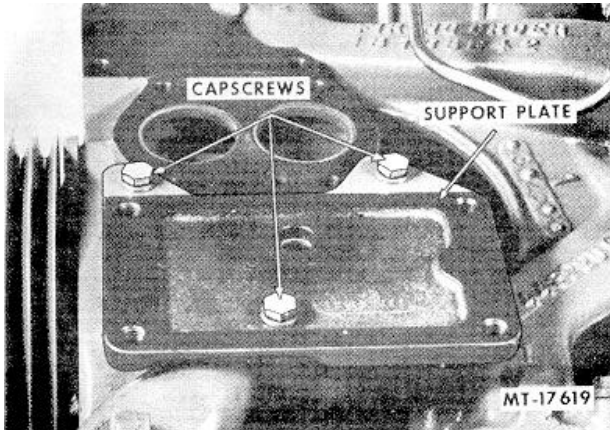

Fig. 19 Air Compressor Support Plate Removal
17. Remove three capscrews and lockwashers securing air compressor support plate to crankcase (Fig. 19).